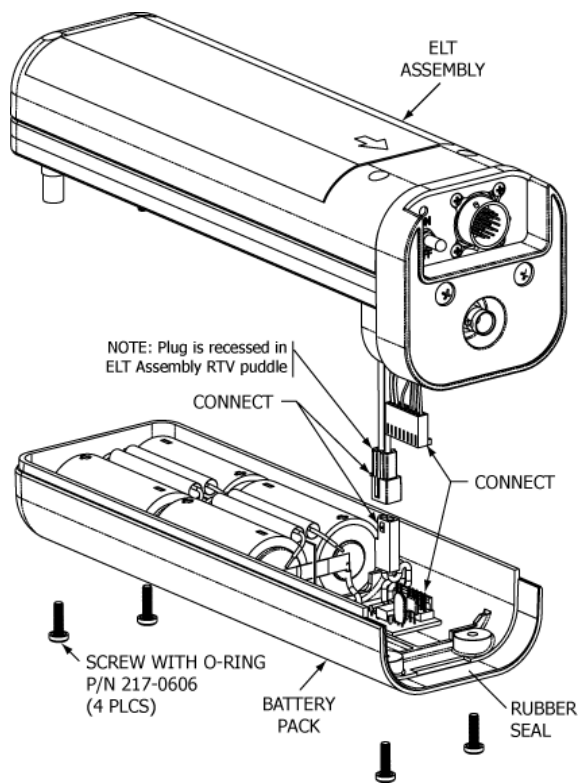

Figure 24 Battery Pack Installation
- 2) See Figure 24 Battery Pack Installation.